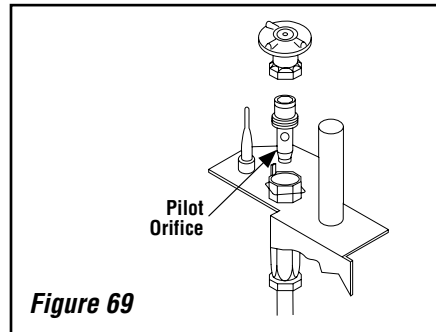

Figure 69
Step 6. Refer to **Figure 69** and remove the pilot hood assembly to access the hexed pilot orifice. Remove and replace the orifice with the one provided with the kit.